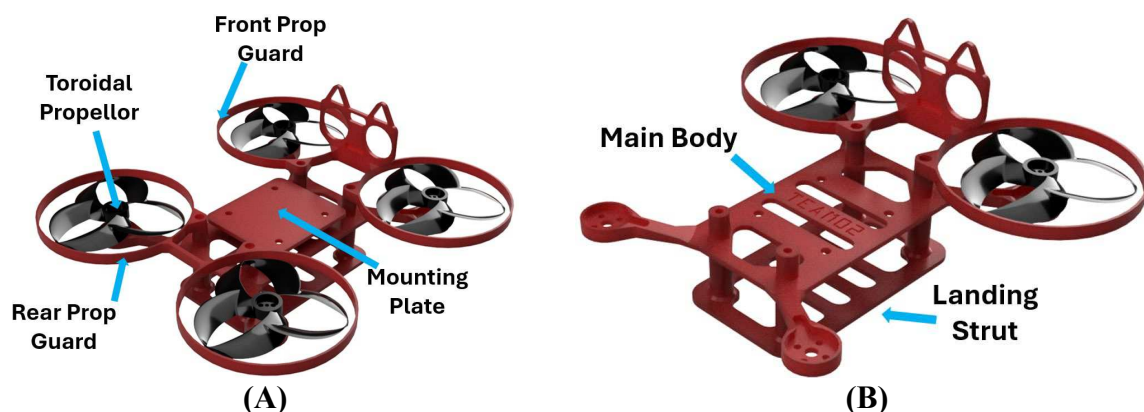

Figure 3: (A) Assembled Frame. (B) Frame with Mounting Plate and Rear Components Removed
1. Identify the broken piece as per Figure 3. The descriptions in Figure 3 match the names of the Fusion 360 and STL files corresponding to each piece. These files are in 05.3D Modelling\00. Fusion 360 Files and 05.3D Modelling\01.STLs for 3D Printing of the design outputs folder respectively.